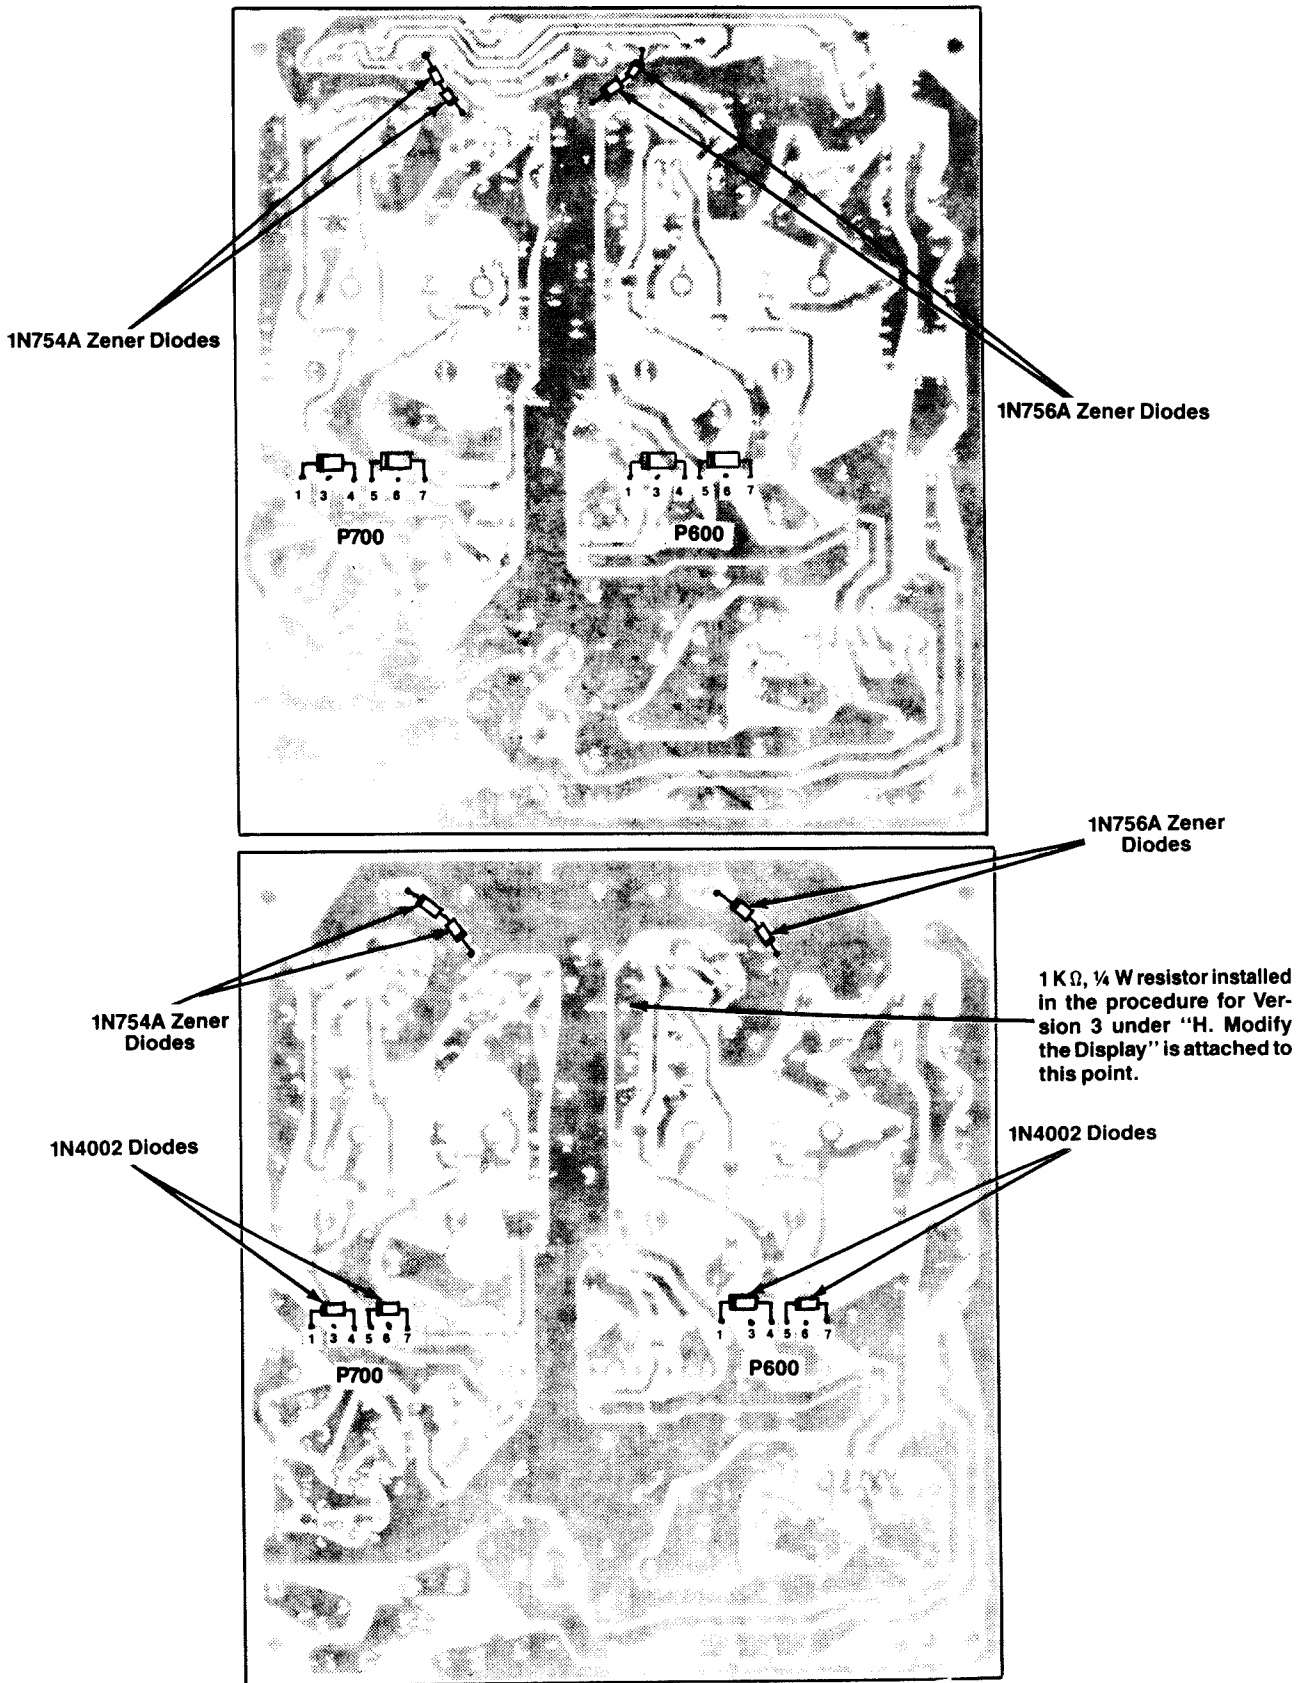

Figure 8 Modifying the Deflection PCB
7. ✓ Examine the soldered side of the Deflection PCB removed from the display and determine which of the two PCBs shown in Figure 8 matches your PCB. *Bottom*
9. ✓ Solder one cathode lead of the two type-1N754A Zener diodes (soldered together in step 5) to the yellow lead on the soldered side of the PCB as shown on the appropriate illustration in Figure 8.
10. ✓ Solder the other cathode lead of the two type-1N754A Zener diodes to ground as shown on the appropriate illustration in Figure 8.
12. ✓ Solder one cathode lead of the two type-1N756A Zener diodes (soldered together in step 6) to the orange lead on the soldered side of the PCB as shown on the appropriate illustration in Figure 8.
13. ✓ Solder the other cathode lead of the two type-1N756A Zener diodes to ground as shown on the appropriate illustration in Figure 8.
15. ✓ Solder the cathode lead of a type-1N4002 diode to pin 1 and the anode lead to pin 4 of connector P600 on the soldered side of the PCB as shown on the appropriate illustration in Figure 8.
16. ✓ Solder the cathode lead of a type-1N4002 diode to pin 5 and the anode lead to pin 7 of connector P600 on the soldered side of the PCB as shown on the appropriate illustration in Figure 8.
18. ✓ Solder the cathode lead of a type-1N4002 diode to pin 1 and the anode lead to pin 4 of connector P700 on the soldered side of the PCB as shown on the appropriate illustration in Figure 8.
19. Solder the cathode lead of a type-1N4002 diode to pin 5 and the anode lead to pin 7 of connector P700 on the soldered side of the PCB as shown on the appropriate illustration in Figure 8.
2. Locate the wire connected to resistor R1 (22 k Ω) and the collectors of transistors Q1 and Q3 (type 2N3904) on the Input Protection Circuit PCB and the point shown in Figure 8 on the Deflection PCB.